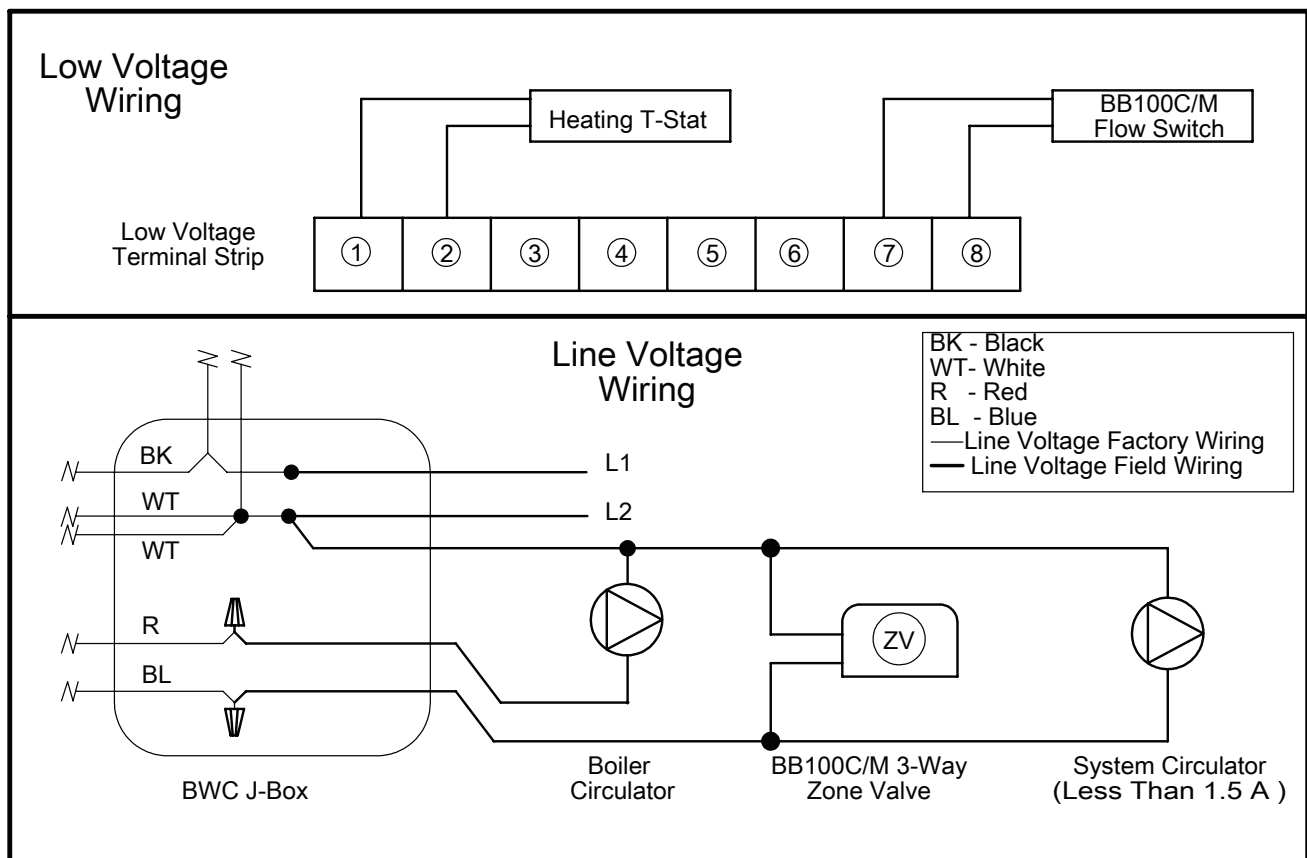

FIGURE 7.4: Wiring BB100C to Boiler equipped with Type III MCBA
5) Connecting BB100C to Type III MCBA Equipped boilers (Figure 7.4):